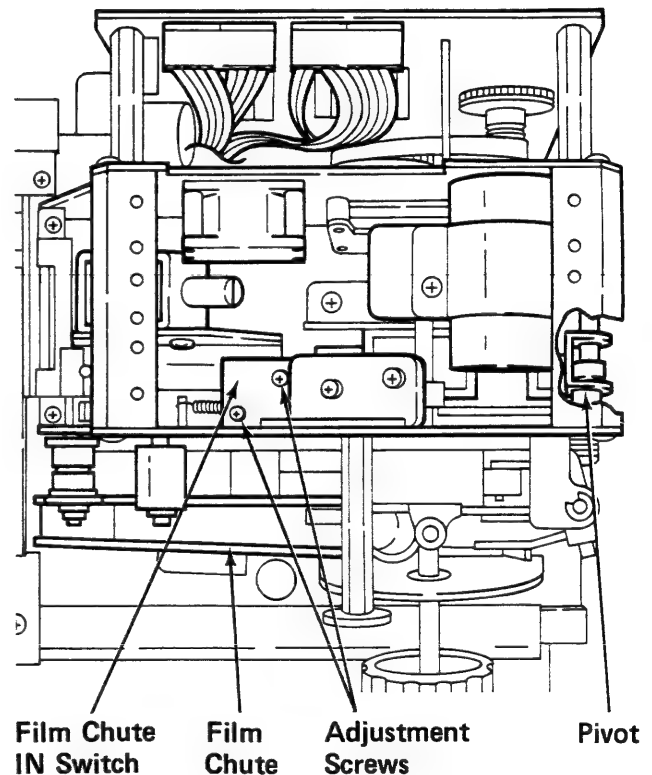

Figure 3-10.8A
10. Push in on the top of the Anti-Static Roller Pivot (Figure 3-10.8A) and manually push the Film Chute all the way in. The Status Code should read 1.
1. Loosen the Adjustment Screws for the Film Chute In Switch (S9) (Figure 3-10.8A).